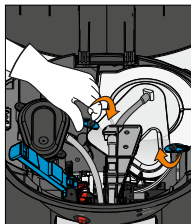

Figure 38
13. Rotate turn knobs to lock SmartFlo SF-1 Water Cartridge in place (Figure 38)